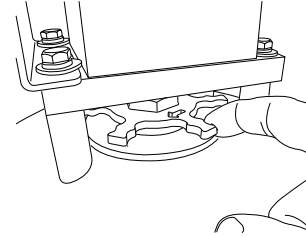

Figure 1
4. When first pressurizing the filter, it may be necessary to tighten the lid/actuator rod seal. See Figure 1. The viscosity of the process fluid will determine whether this is necessary. If the seal begins to leak, compress the seal by rotating the packing wheel in one-sixth of a turn increments. For maximum seal life, do not use excessive force to tighten the packing wheel.